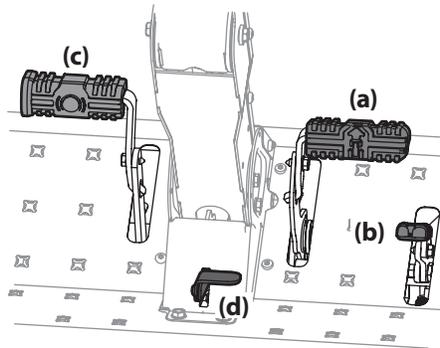

Figure 3-3
- To travel FORWARD, slowly press the forward drive pedal (a) forward until the desired speed is achieved. See Figure 3-3.
- To stop or slow down the tractor, take your foot off of the forward (a) or reverse drive (b) pedal. To lock the parking brake, press forward on the brake pedal (c), then press down on the parking brake/cruise control (d) lever and then release the brake pedal. See Figure 3-3.
NOTE: The forward (a) and reverse drive pedals (b) must not be used when the brake is partially engaged. See Figure 3-3. When the brake is locked the drive belt is disengaged, but if the brake is only part way back then the brakes are engaged but so is the drive belt so transmission damage will occur if you push forward or reverse.
- To travel in reverse, check that the area behind is clear then slowly push forward on the reverse drive pedal with the ball of your foot (NOT your heel) until the desired speed is achieved. See Figure 3-3.